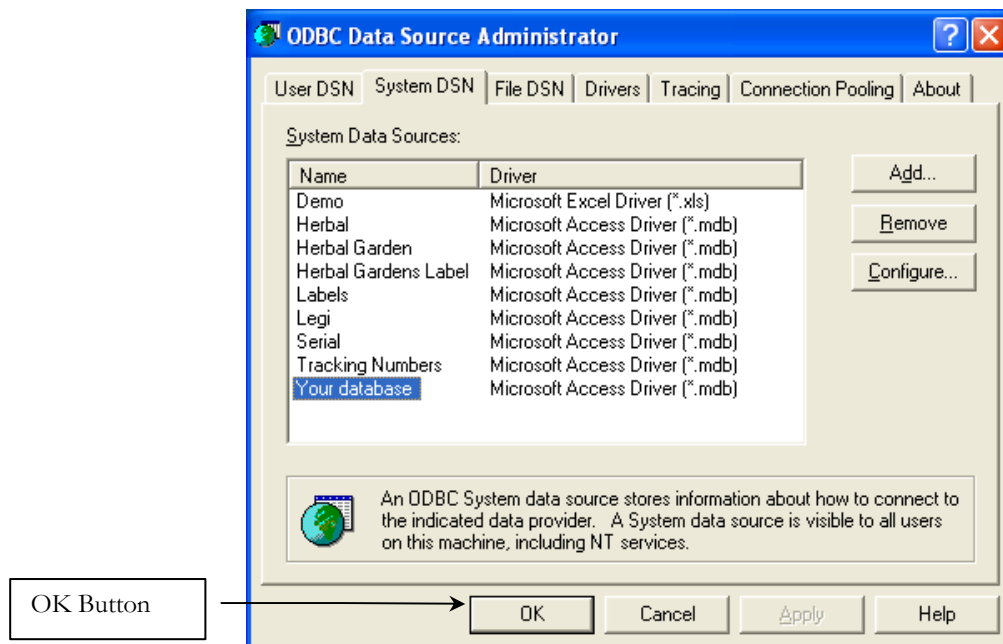

Figure 46
54. You should now be back at the ODBC Data Source Administrator screen. (Figure 46)